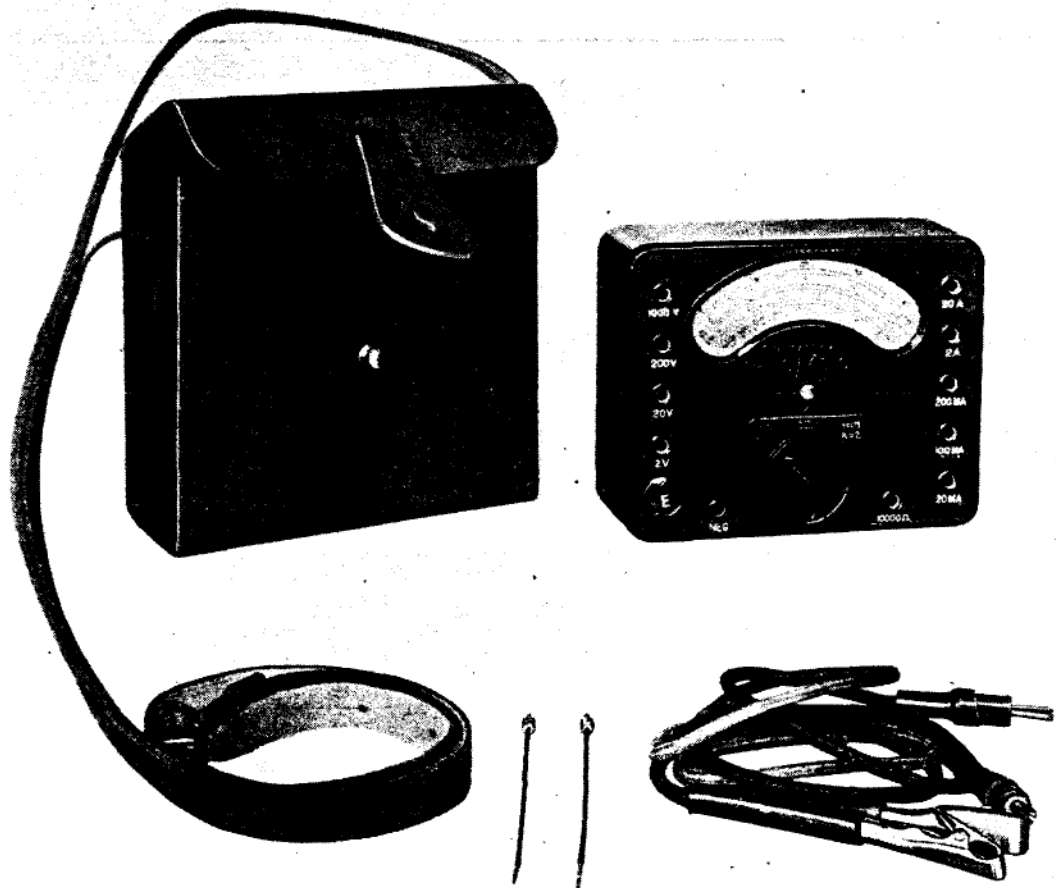

Fig. 2.—Testmeter, type E
12. The testmeter, type E, is depicted in fig. 2. It is constructed of black moulded insulating material, is approximately $4\frac{1}{4}$ in. by $3\frac{1}{2}$ in. by 2 in. overall, weighs 1 lb. 12 oz. and has four rubber feet located on the back upon which it should rest when in use. Also at the back is a hinged instruction plate secured by two spring clips, and beneath it a loose plate clamped by a rubber buffer, covering a compartment in which is housed a dry battery.